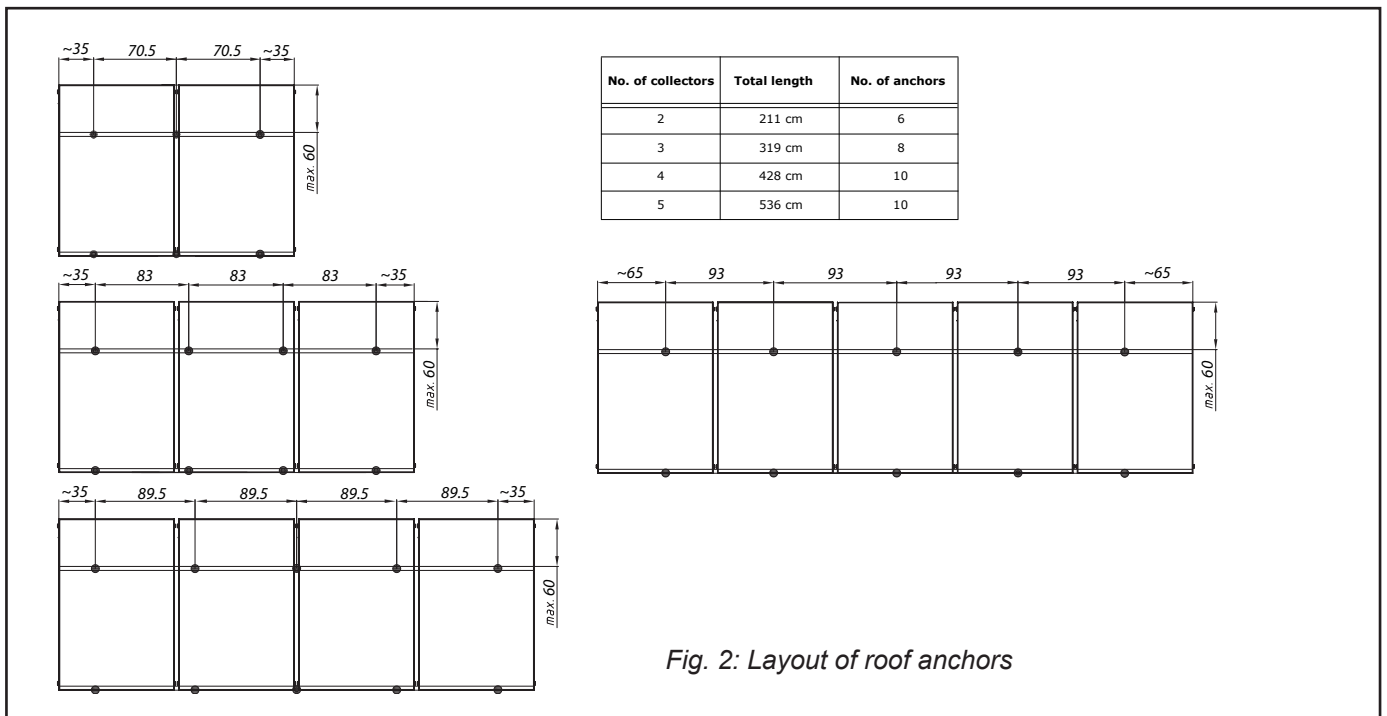

Fig. 2: Layout of roof anchors
- Fix the auxiliary boards to battens so that the distribution of anchors resembles the positions in Fig. 2. At the same time screw the boards so high that the roof
- Hang the roof anchors onto the auxiliary board respecting their distribution shown in Fig. 2.
- Remove roofing in places where anchors shall be fixed (Fig. 6). The distance between anchors is defined in Fig. 2.
- Depending on the number of collectors, measure and calculate the positions for fixing roof anchors (Fig. 2). Such places shall be selected for mounting where anchors can be fixed sufficiently into the roof frame (rafter or similar).